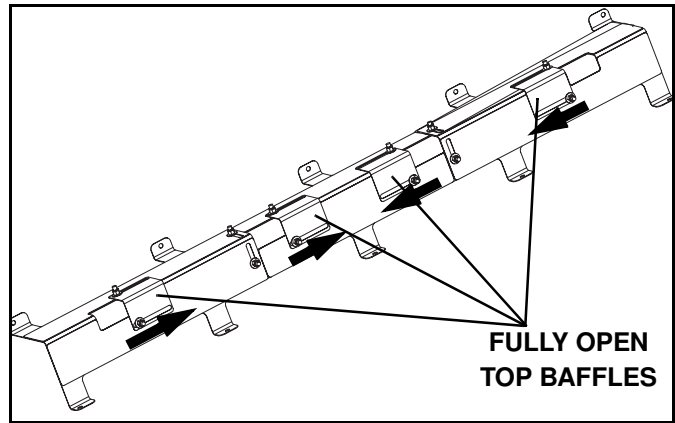

Figure 1-7
B. Sectional Design - Top baffles open and side baffles fully raised (See Figure 1-7). The top baffles can be partially or fully open depending on desired flow to the auger. Note: If using a PDE800, an additional vibrator (99101247) is recommended.